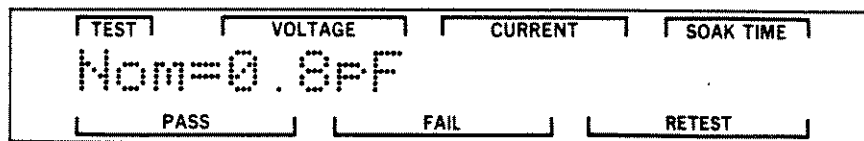

Figure 7-60. Nominal Capacitance Screen
STEP 12. Press the RIGHT pushbutton once to allow the Nominal Capacitance to be changed. Figure 7-60 is an example of this screen.